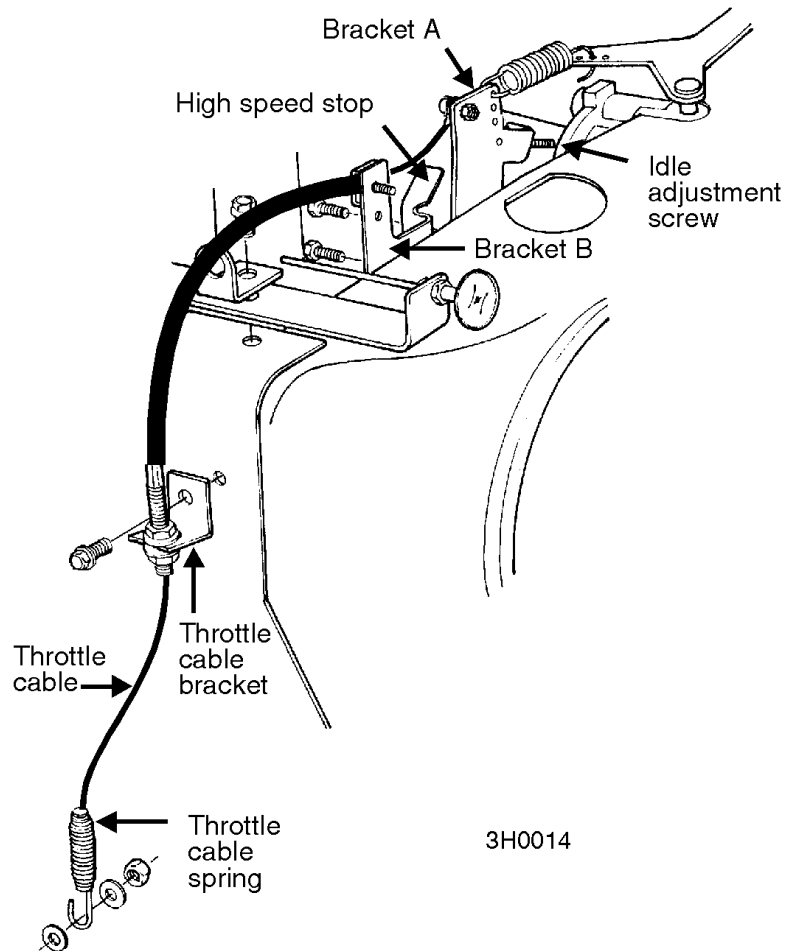

FIG. 3-3
**See Figure 3-3.** Make sure that the throttle linkage is not affecting the engine RPM while the clutch/brake handle is disengaged.
**See Figure 3-3.** To adjust the high-end RPM, lower or raise the cable guide in the throttle cable bracket until the cable spring extends  $1/4"$  -  $3/8"$  (6.4 - 9.5 mm) when the engine is at 3400-3600 RPM. Bend the high speed stop on bracket B down until it touches bracket A. This will prevent over-revving the engine when tightening the belt adjustment. To adjust for low-end RPM, adjust the idle screw on bracket B until the RPM is 1800 ( $\pm 100$ ). **NOTE:** A properly adjusted throttle will extend the cable spring  $1/4"$  to  $3/8"$  (6.4 - 9.5 mm) when running and have a slight amount of slack in the cable when idling.